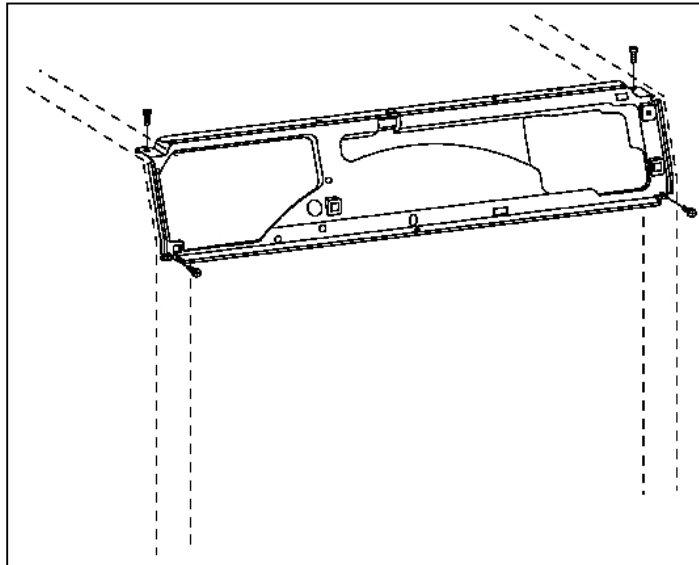

Figure 010-2: Support bracket
6. Remove the four T20 screws, Figure 010-2.